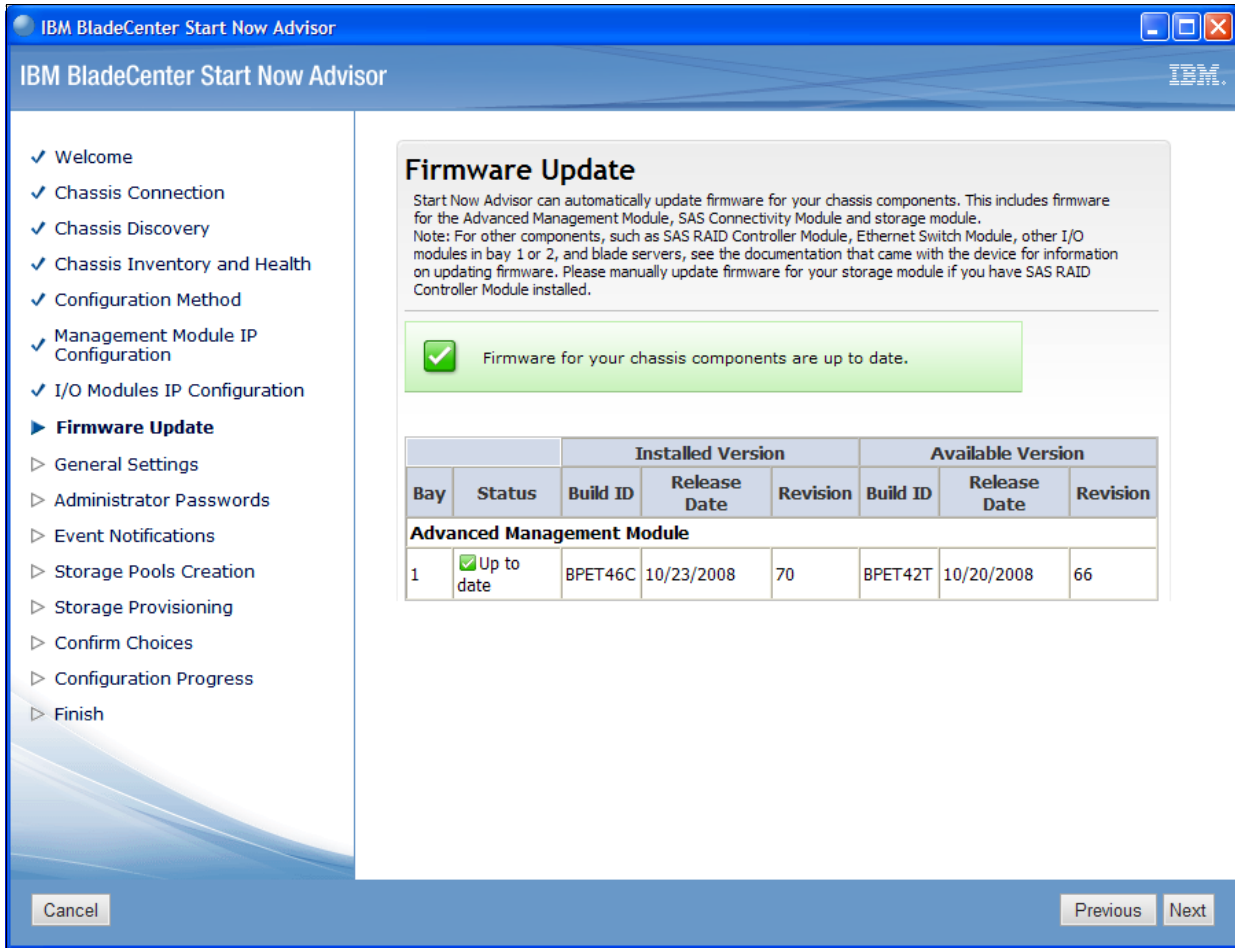

Figure 2-8 Firmware status and update availability
8. Review the installed AMM and firmware version information on the “Firmware Update” panel (Figure 2-8). This panel shows the installed AMM and firmware version and lets you update it automatically if necessary.